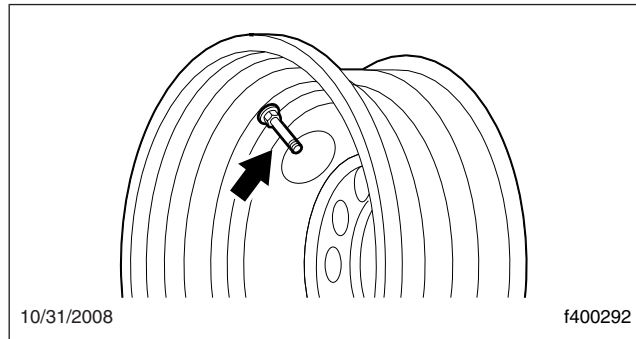

Fig. 9, Valve Stem Installation
- 1.2 Screw the valve nut onto the stem from the opposite side. Make sure the rubber bushing and metal collar or nut are centered and fit snugly in the valve hole. See Fig. 9.